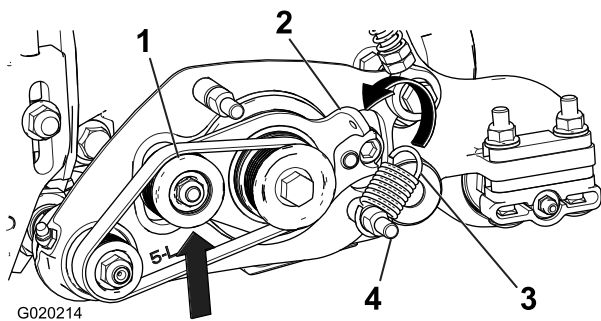

Figure 13
29. Hook the idler spring around the groove on the groomer-plate lower stud, push up on the idler pulley, and hook the free spring end into the hole in the idler-plate tab (Figure 13). Ensure that you position the open end of the spring hook toward the drive pulley.